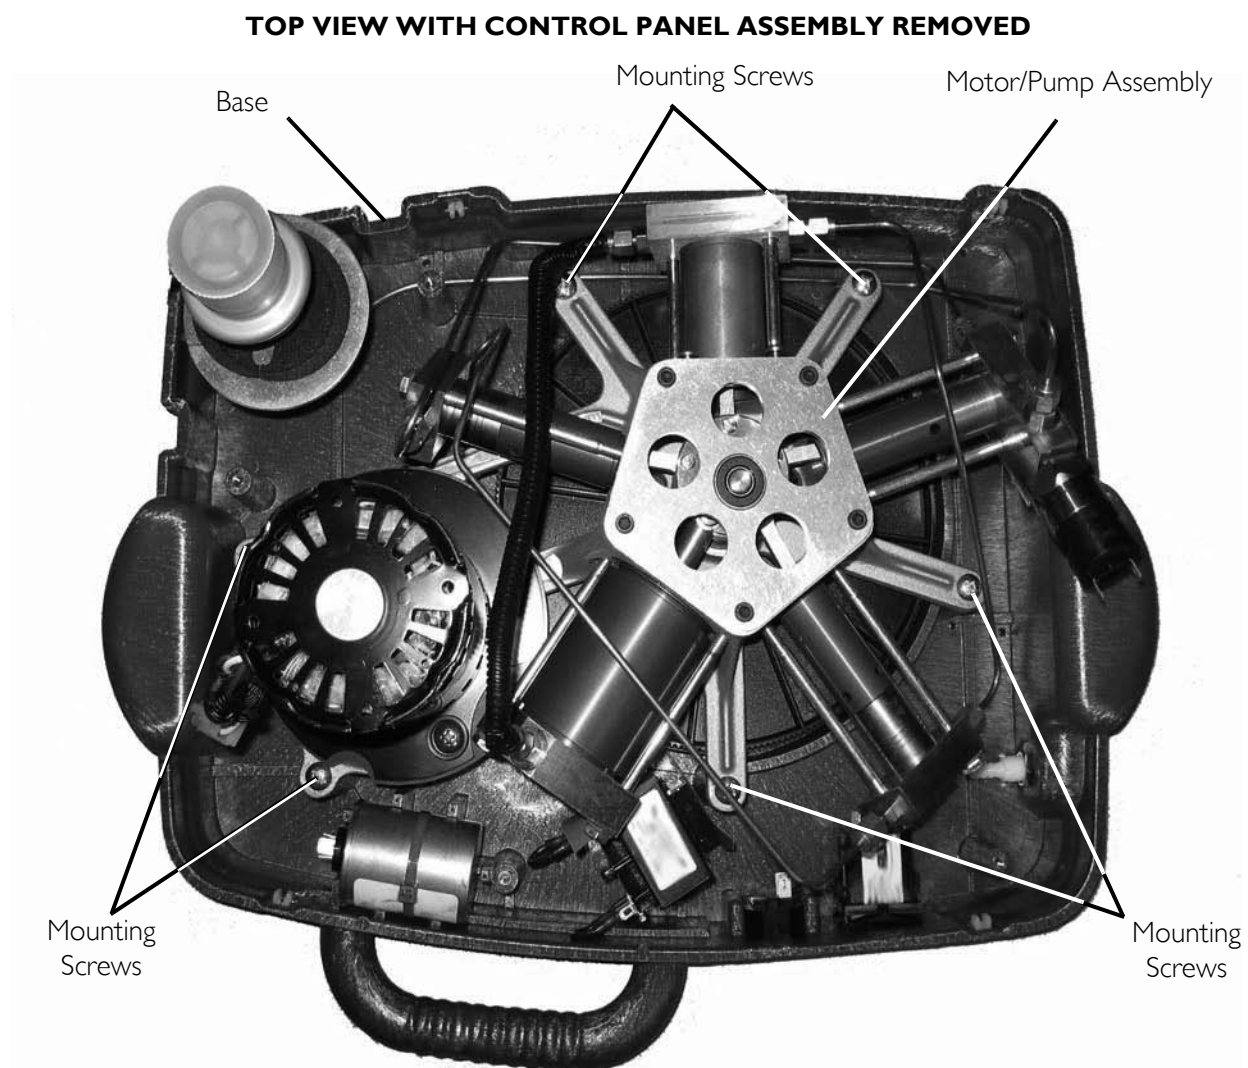

FIGURE 8.5 Base Replacement
23. Remove the six mounting screws that secure the pump/motor assembly to the base (FIGURE 8.5).
8. Secure the pump/motor assembly to the base with six mounting screws. Torque mounting screws to 25-30 in-lbs (2.82-3.4 Nm) (FIGURE 8.5).